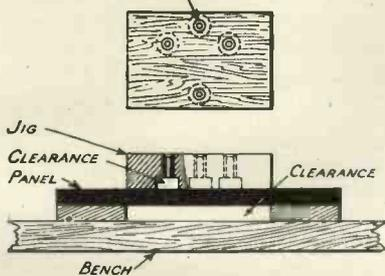

Fig. 4.—Jig for placing valve legs.
**T**IME is saved and accuracy obtained by the use of a drilling jig where a series of similar holes are to be drilled for panel mounting. A most useful type is a jig for drilling holes to receive valve pins, as shown in Fig. 4.